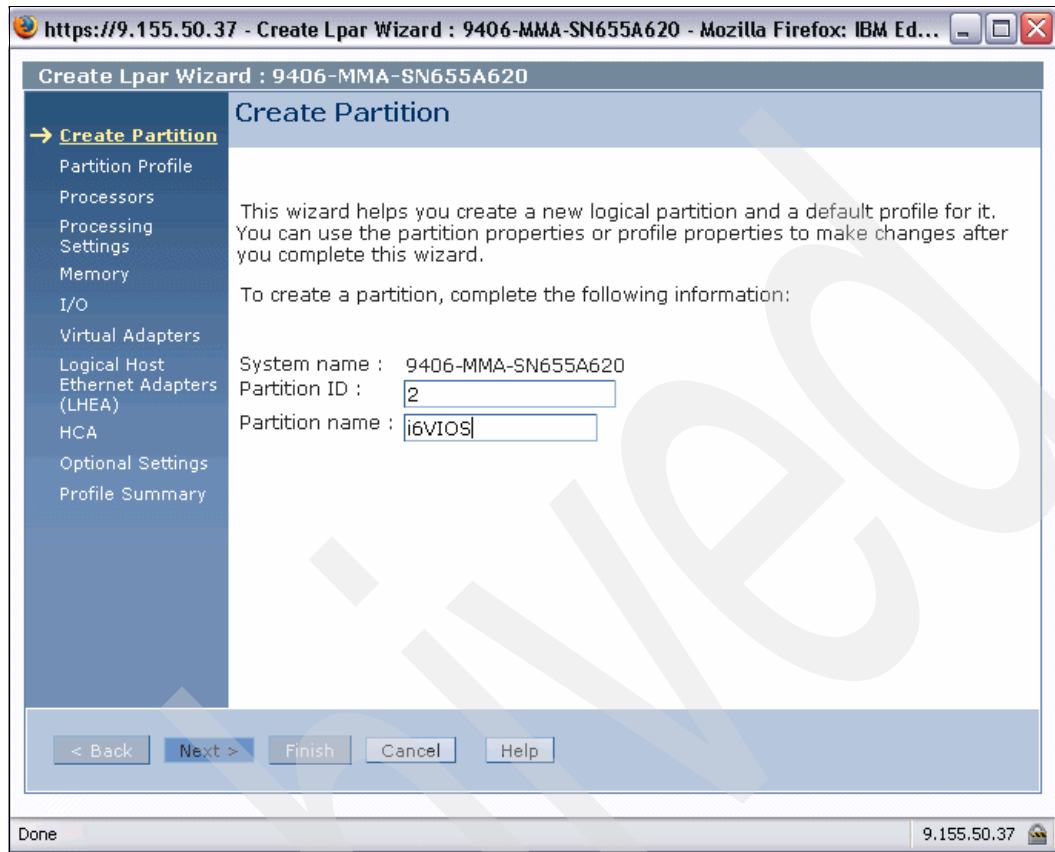

Figure 6-4 Create LPAR Create Partition dialog
2. We enter an unused partition ID and partition name and click **Next** to proceed, as shown in Figure 6-4.